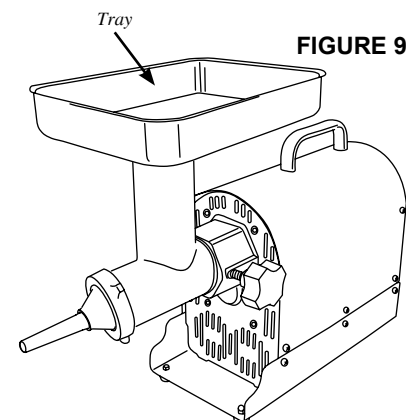

FIGURE 9
8. **NEVER** operate **Grinder** without the **Tray** secured in place (Figure 9).